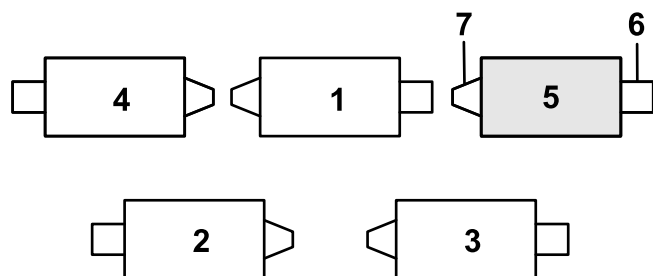

Figure 11
1. If the hairpin is installed in the rear hole of the compensation-spring rod—remove the hairpin and insert it in the hole next to the bracket (Figure 11).